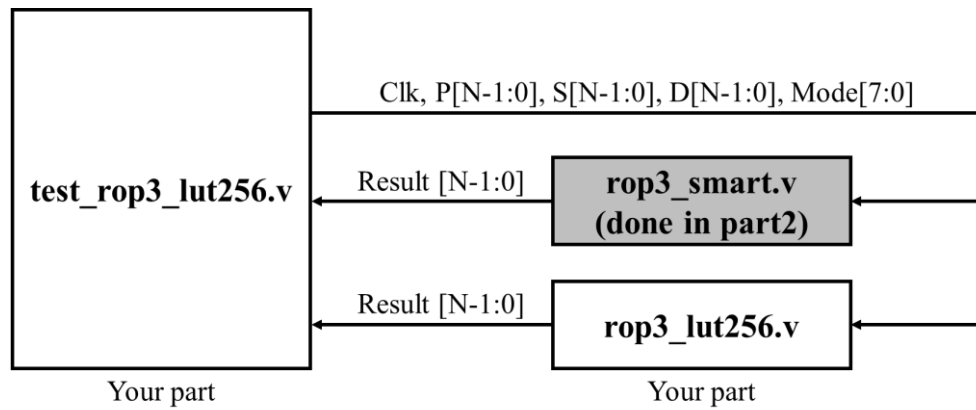

Figure 4: Part 3 Architecture
*This testbench should send identical inputs to both modules (`rop3_smart`&`rop3_lut256`), and compare their computation results. A reference testing architecture is shown in Figure 4.